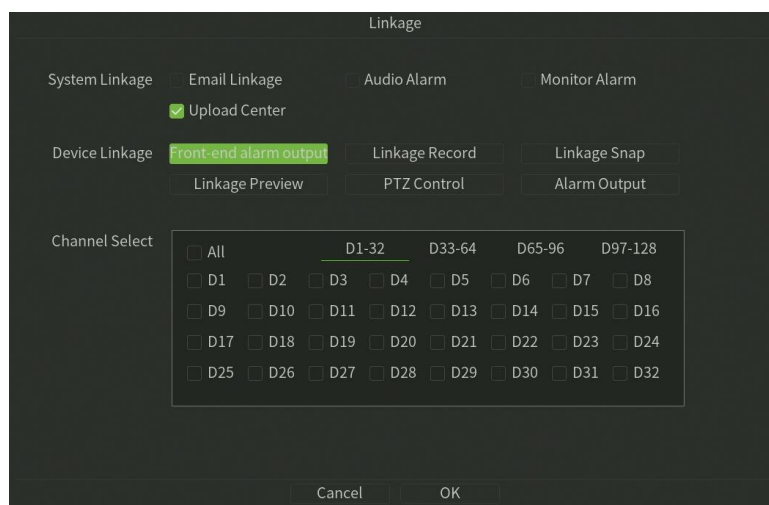

Figure 7.13 Linkage
11. **Linkage:** Click Linkage button, Setup the linkage operation of the function, as shown in figure 7.13.